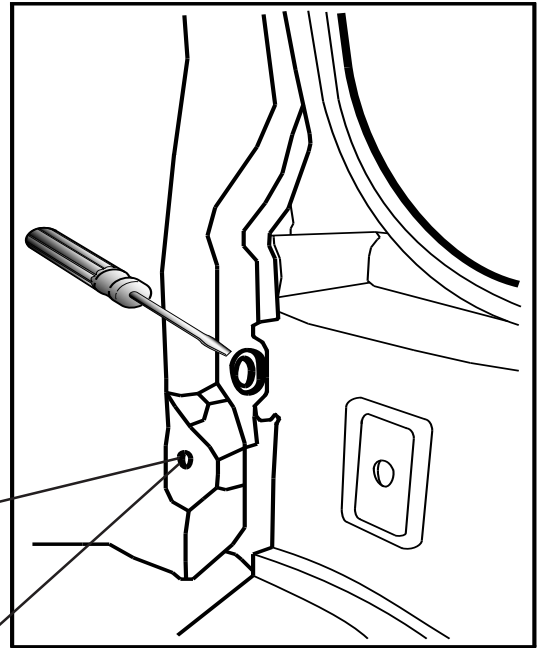

Fig. 6
9. Using a small screwdriver, remove the plastic fasteners by prying out the center. Retain for reuse. (Fig. 6)